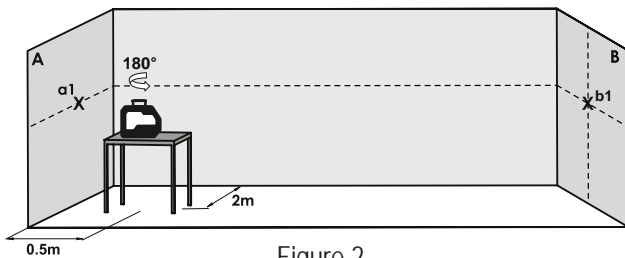

Figure 2
5. Turn the laser 180° towards wall **B** and mark the center of the cross beams as **b1** on the wall (see figure 2).